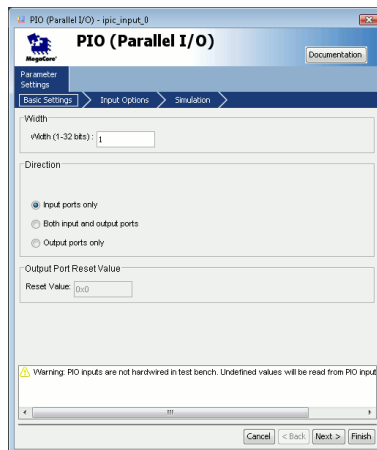

Figure 1.5: Input part of the Interprocessor Interrupt. The Figure shows the Avalon PIO basic settings.
18. Add two Avalon PIOs named `ipic_input_0` and `ipic_input_1`. The PIO must be a 1 bit Input PIO, with Synchronous capture on the rising edge, and an Edge IRQ. Screenshots of the PIO dialog boxes can be found in Figures 1.5, 1.6, and 1.7. These PIO will be used by each CPU to receive interprocessor interrupts. Connect `ipic_input_0` to the `cpu_0` data bus, and `ipic_input_1` to the `cpu_1` data bus. This is the last component that have to be added to SOPCBuilder for this demo. Let’s now remove all the errors that appears in the bottom of the window, and setup the other tabs of SOPCBuilder.